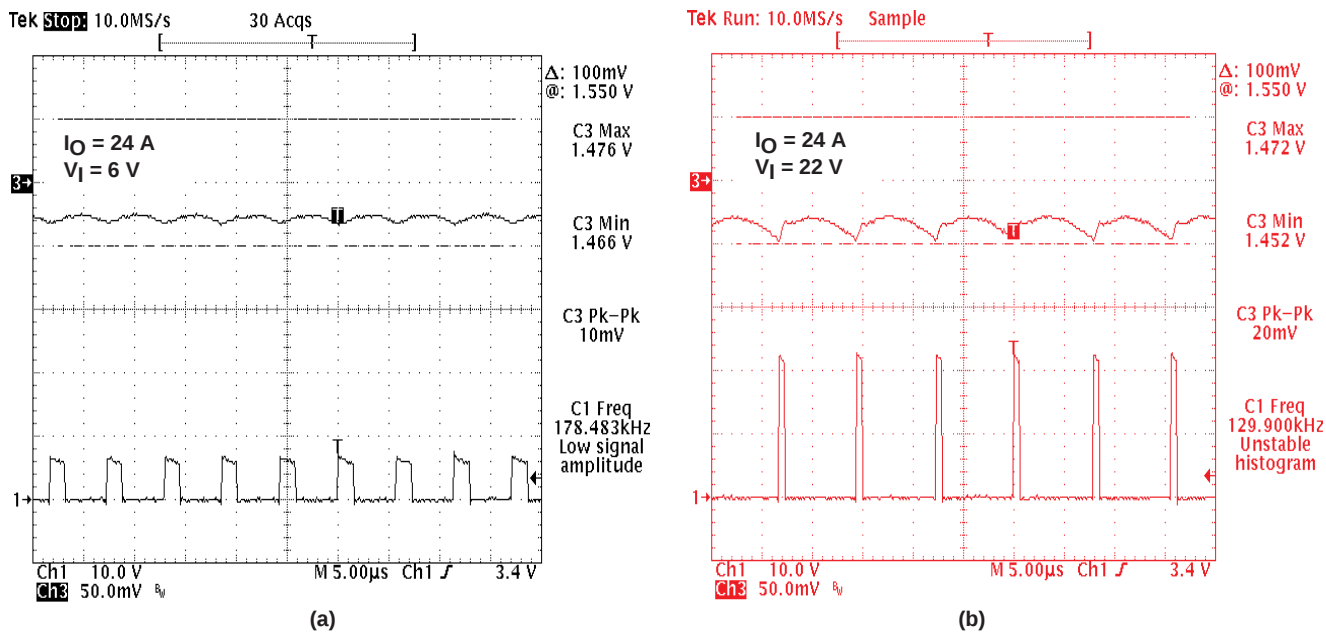

Figure 2. Output Voltage Ripple and Low-Side FET Drain-Source Voltage
The main waveforms are shown in Figure 2 through Figure 5. These waveforms include the following:
- The output ripple and V_{ds} voltage of the low-side FET in the whole input voltage range (see Figure 2).